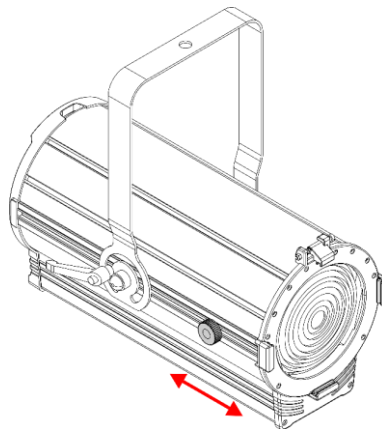

Fig. 16
- 01) Turn the **zoom control (05)** counterclockwise to loosen it.
- 02) Slide the **zoom control (05)** forwards or backwards to achieve the desired beam angle (see Fig. 16).
- 03) After adjusting the beam angle, turn the **zoom control (05)** clockwise to tighten it. Do not overtighten it.